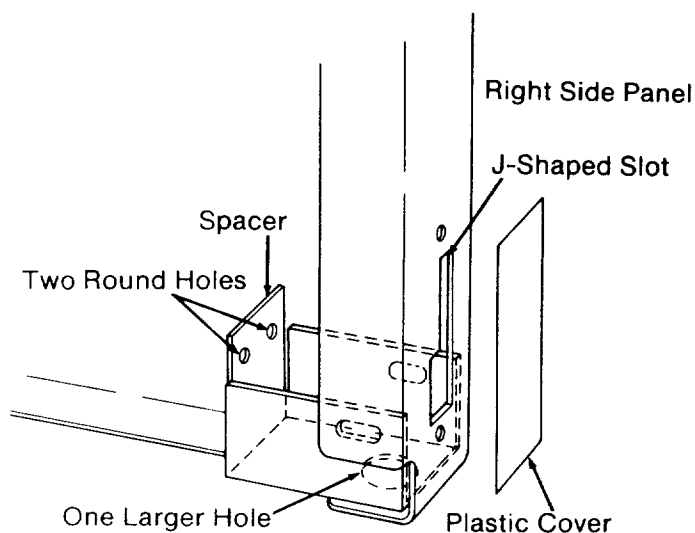

Fig. 18
10. Put a *spacer* inside the *right side panel* as shown. The side of the *spacer* with two round holes should be opposite the J-shaped slot in the *side panel*, and the side with one larger hole should be on the bottom. (Figure 18)